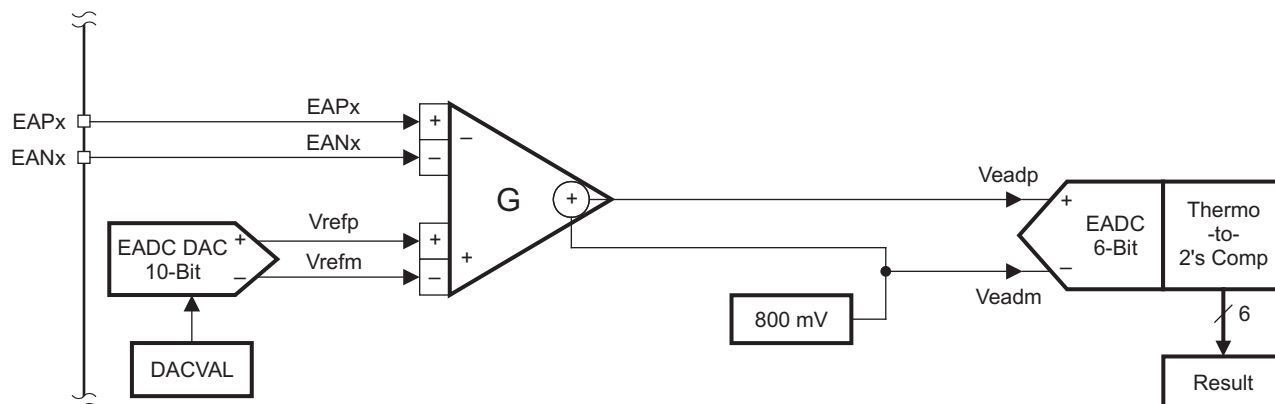

Figure 4. Error ADC Module
The EADC module within the UCD30xx is shown in Figure 4. It contains a differential input, switch-capacitor filter circuit for receiving the differential voltage signal (signal being sensed) from external pins EAPx and EANx. It is compared with an internal 10-bit DAC output in order to measure the error voltage signal. Gain control (G) is provided in the amplifier for 1-, 2-, 4-, or 8-times amplification of the differential error signal. This error signal is then summed with an internal reference voltage (800 mV) and compared against this same reference voltage as input to the EADC module. Thus the error signal input to EADC is: